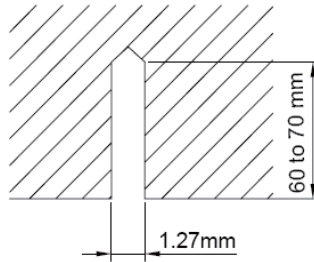

Figure 3-1-41
(2). Install the bolts to the ceiling at a place strong enough to hang the unit. Mark the bolt positions from the installation template. With a concrete drill, drill for 12.7 mm (1/2") diameter holes. (Figure 3-1-41)